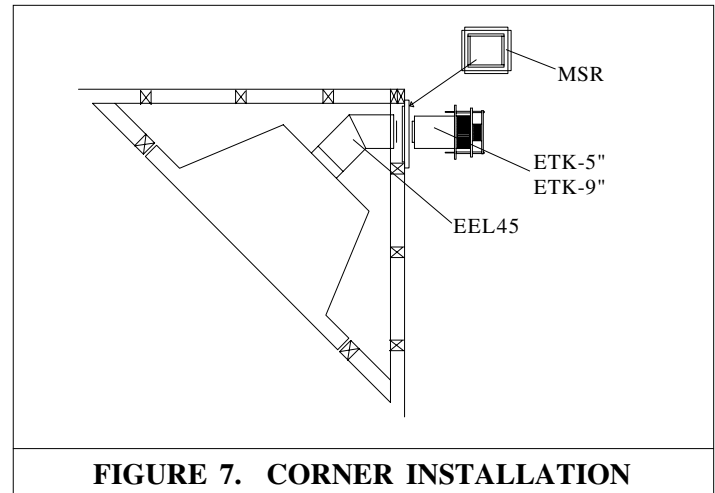

FIGURE 7. CORNER INSTALLATION
- 3). 45° corner kit. Use a 45° elbow, stucco frame and a 5" termination. (see figure 7).